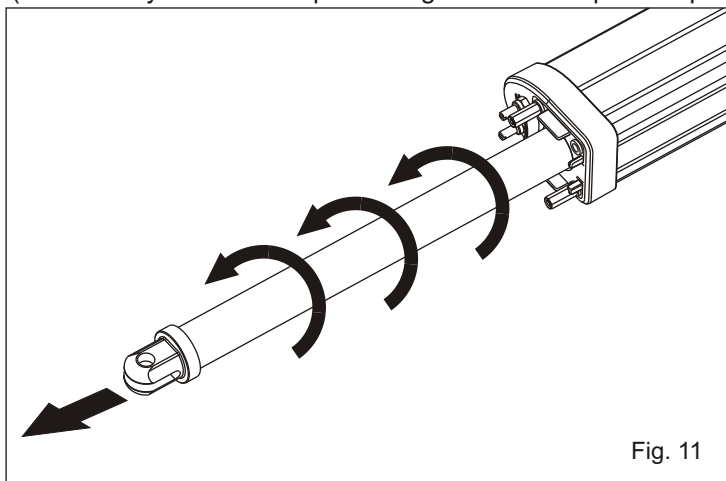

Fig. 11
2.5. WARNING: Turn the shaft up to its max. extension, afterwards turn it about at least half turn into the opposite direction (screw it) see Fig. 11 and 12.